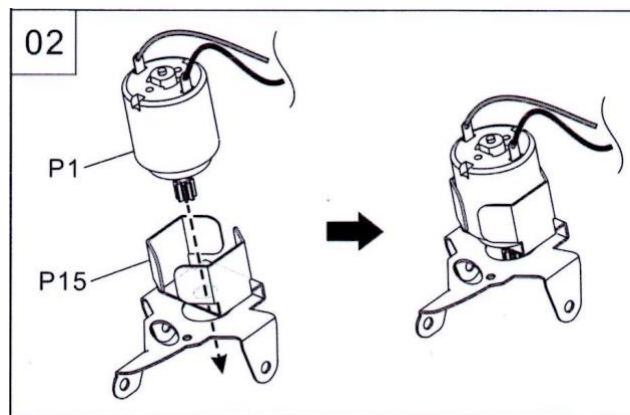

Fig. 5
2. Now put the solar panel with motor so that it is secure in the main body, with the wires and solar panel free. Press it down so that the main body is holding onto the motor firmly. See **Fig. 5**